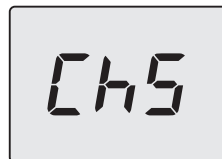

Figure 9.22
- Scroll through the various menus by pressing the keys 13 (back) or 15 (forward), until **ChS** (Chimney sweep) appears on the LCD display (Figure 9.22).